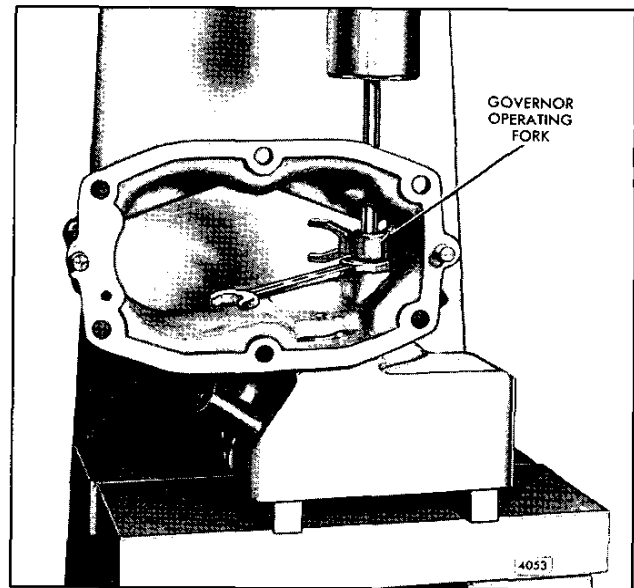

Fig. 9 - Removing Governor Operating Fork
9. Place an end wrench between the operating fork and the governor housing and a rod on the end of the operating shaft. Then press the shaft out of the fork (Fig. 9).